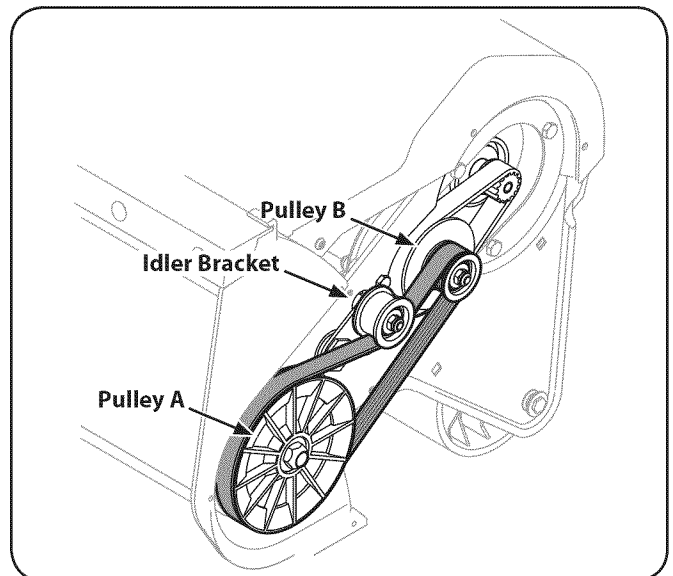

Figure 7-3
2. Pull the idler bracket upward to relieve tension on the belt. See Fig. 7-3.